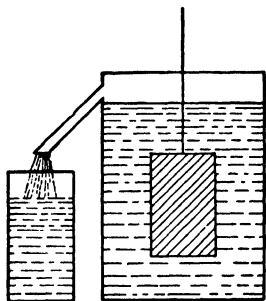

Fig. 5.2. Finding the volume of an object from the liquid which overflows.
2. The “overflow” method may be used. (See Fig. 5.2.) A container of suitable size, equipped with an overflow spout, is filled with liquid until the container overflows. Then the object is lowered into the liquid, and the overflow caused by the object is caught in a suitable container. If a graduate is used the volume is obtained from the calibration on the graduate, otherwise the liquid must be weighed and its volume calculated. Water is generally used because it is plentiful, and easy to use, but any liquid in which the material will not dissolve may be used.